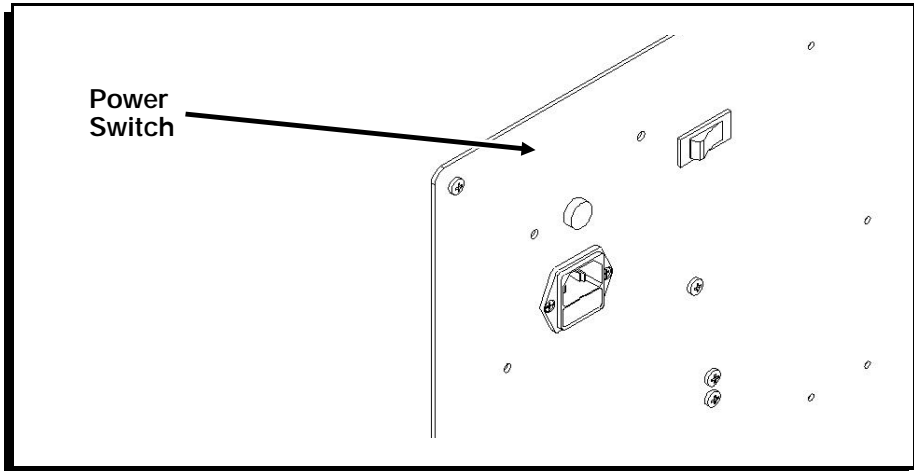

Figure 43
1. Turn the Station's power supply off and unplug the power cord. (Figure 43.)